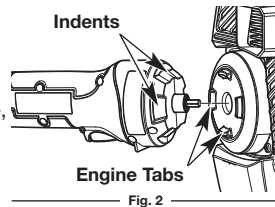

Fig. 2
1. Place the electric starter keyed tip into the hole in the rear of the engine, making sure the engine tabs on the back of the engine are flush with the indents on the electric starter. (Fig. 2)